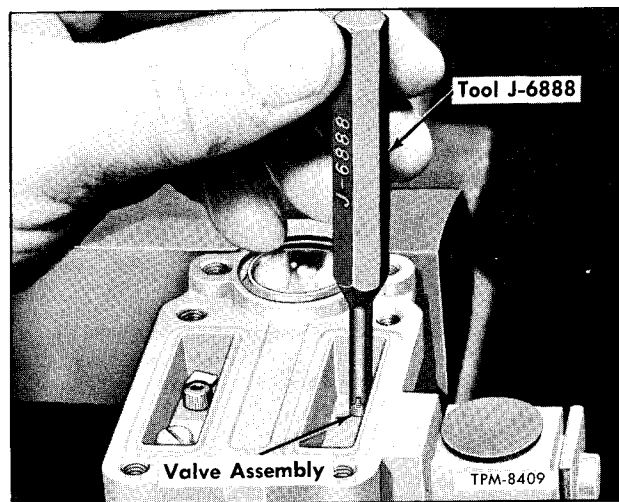
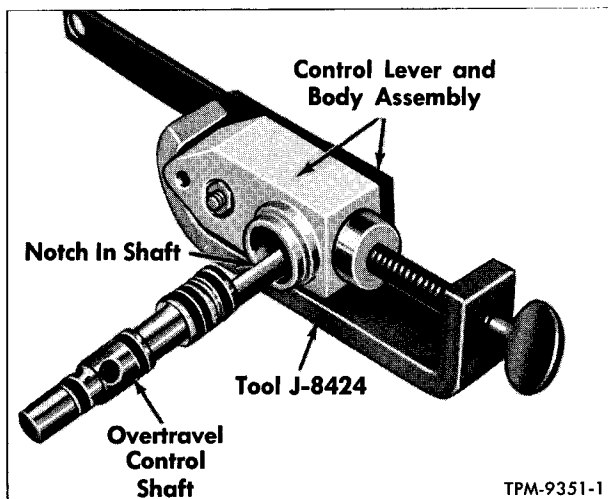

Figure 14—Replacing Valve Core Assemblies
Figure 15—Replacing Overtravel Lever
2. Remove four cover screws and lock washers (1) from cover and bracket (2). Remove cover and bracket and cover O-rings (3).
3. Position valve with delay plug at top. Unscrew delay plug (37) from valve body. Drain silicone fluid from cavity. Remove plug O-ring (38). Unscrew piston pin (39) from control shaft.
4. Remove two cover screws and lock washers (1) from cover (42). Remove cover and cover O-ring (41). Remove delay piston (40).
5. Remove valve lever screws and lock washers (4) from valve levers. Remove exhaust valve lever (10) and intake valve lever (6) from valve body.
6. Remove valve stem lock clip (7) from stem of exhaust valve core. Spread locking arms and slide clip from around stem.
7. Remove retaining ring (13) from overtravel control shaft. Pull overtravel assembly and shaft from valve body.
8. Remove intake valve core (8) with tool J-6888 as shown in figure 14.
9. Remove exhaust fitting (29) and screen (30), then remove exhaust valve core (31) with tool J-6888 as shown in figure 14.
10. Remove two retainers (11) and nylon balls (12) from exhaust valve lever cavity in body. Threaded end of piston pin (39) can be used to lift ball retainers out of body.
11. Remove plug retainer (25) from overtravel control body (24). Retainer must be cut off. Use caution to avoid damage to nylon body. Remove overtravel body plug (20).
12. Place forked end of tool J-8424 around shaft in overtravel control body, then tighten clamp screw. See figure 15. **CAUTION: TIGHTEN TOOL UNTIL OVERTRAVEL CONTROL SHAFT (17) CAN BE TURNED 90° TO ALLOW NOTCH IN SHAFT TO PASS FREE OF OVERTRAVEL PISTON (21). DO NOT APPLY MORE PRESSURE THAN IS REQUIRED.** Remove overtravel control shaft (17) and overtravel control body seal (18) from body. Remove shaft O-rings (15, 16, and 19). Back off vise jaw and take body and tool from vise. Remove tool, overtravel piston (21), overtravel lever large spring (22), and overtravel lever small spring (23) from body. Remove lever screw nut (26) from overtravel lever screw or stud. Remove lever (27) from body.
1. Install intake valve core (8) and exhaust valve core (31) in body with tool J-6888 in manner shown in figure 14. Tighten to 2-1/2 to 3 inch-pounds torque.
2. On front valves only, place two nylon balls (12) in passages at bottom of exhaust valve lever cavity in body. Install ball retainers (11).
a. Install overtravel lever (27) on body. Place lever stud nut (26) on stud and tighten to 70-80 inch-pounds torque.
b. Place overtravel lever large spring (22), and overtravel lever small spring (23) inside piston (21). Insert piston in body (24).
c. Place four new O-rings (15, 16 and 19) on overtravel control shaft (17) as shown. Lubricate
d. Position fork of tool (J-8424) so that shaft can be inserted in body. Carefully apply pressure with clamp screw (fig. 15). Compress springs only enough to allow shaft to be inserted. Install overtravel control shaft (17). Rotate shaft so that flat is next to piston.
e. Insert overtravel body plug (20) in bore of body. Force new plug retainer (25) in position over nylon pivot and body plug.
f. Place new overtravel control body seal (18) on shoulder of body. Slide overtravel assembly into valve body (14). Insert carefully to avoid O-ring damage. Secure shaft by installing retaining ring (13).
a. Place delay piston (40) in valve body with open side of piston toward the overtravel shaft.
b. Align pin openings in piston and in shaft. Fit piston pin (39) in **TAPERED SIDE** of hole in shaft. Tighten pin to 8-10 inch-pounds torque.
5. Place intake valve lever (6) and exhaust valve lever (10) in position on overtravel shaft. Place exhaust valve lever fork around stem of valve core. Fork should be high enough on stem so that stem will not be held open. Insert valve lever screws (4) and lock washers and tighten to 8-10 inch-pounds torque.
6. Spread ends of valve stem lock clip (7) slightly and place on exhaust valve stem around stem head. Use suitable tool to brace stem, and pinch ends of clip just enough to secure on stem. Clip must rotate freely on stem.
7. Using new O-ring (33), install air inlet adapter and check valve assembly (36) into valve body.
1. Remove inlet adapter and check valve assembly (23) from valve body (8). Remove outlet adapter (24). Remove adapter O-rings (26). Remove air line fitting gasket (22) from adapters. Remove outlet adapter screen (25).
2. Remove four cover screws and lock washers (1) from cover and bracket (2). Remove cover and bracket and gasket (3).
3. Position valve with delay plug at top. Unscrew delay plug (30) from valve body. Drain silicone fluid from cavity. Remove plug O-ring (31). Unscrew piston pin (32) from control shaft.
4. Remove delay cover retainer (36), cover (35) and cover O-ring (34). Remove delay piston (33).
5. Remove valve lever screw and lock washer (4) from valve lever. Remove exhaust valve and intake valve lever (6) from valve body. Both levers (6) are one unit.
6. Remove valve stem lock clip (5) from stem of exhaust valve core. Spread locking arms and slide clip from around stem.